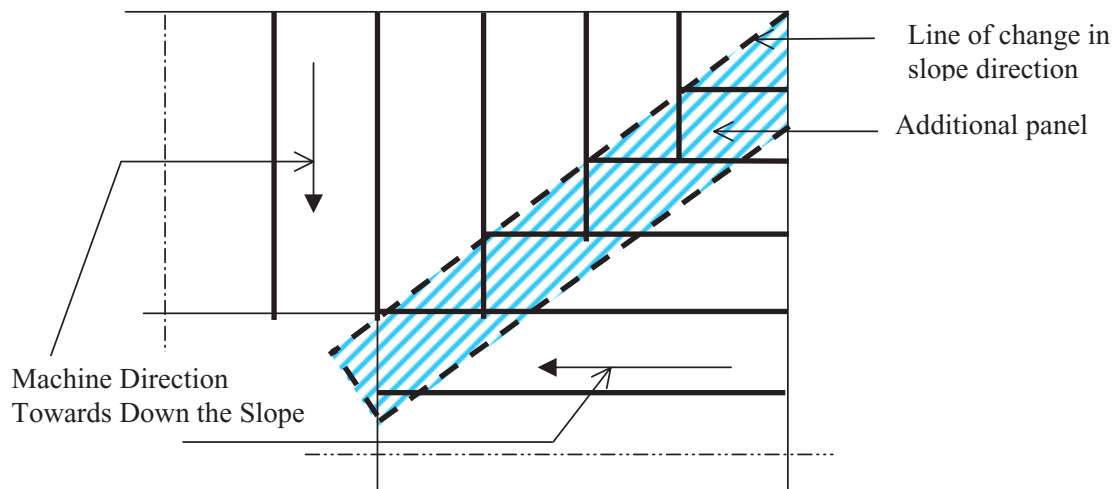

Figure 3 Details of Slope Corners
- In the slope corners, the direction of the slope changes at the corner diagonal line as illustrated in Figure 3. It's recommended to first place an additional panel along the corner diagonal line of the adjacent slope. The panels from the opposite slope should be placed to extend on top of the additional panel. Then the panel for the slope which contains the additional panel should be placed to meet (butted) the opposite slope panels.